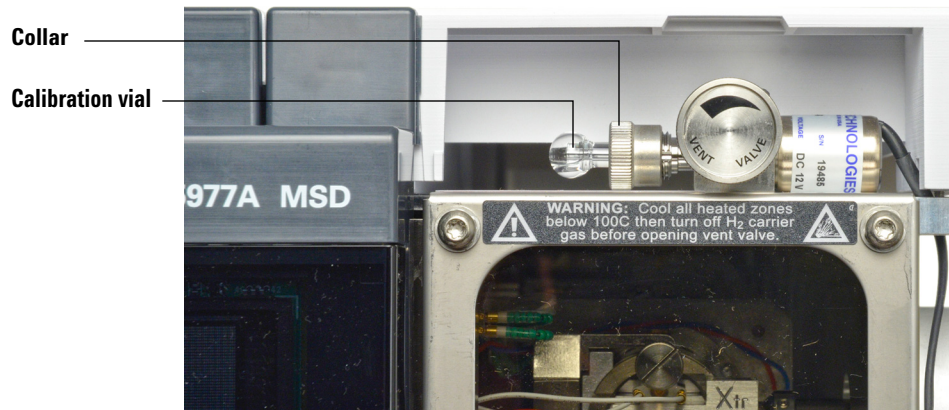

Figure 16 Removing the EI calibration vial
- 5 Loosen the calibration vial collar (Figure 16). Do not remove the collar.
- 3 Loosen the collar and remove the calibration vial (See Figure 16 on page 119). Just loosen the collar, do not remove it.
- 1 Remove the old valve assembly. See “To Remove the EI Calibration and Vent Valve Assembly” on page 122 and Figure 16 on page 119.